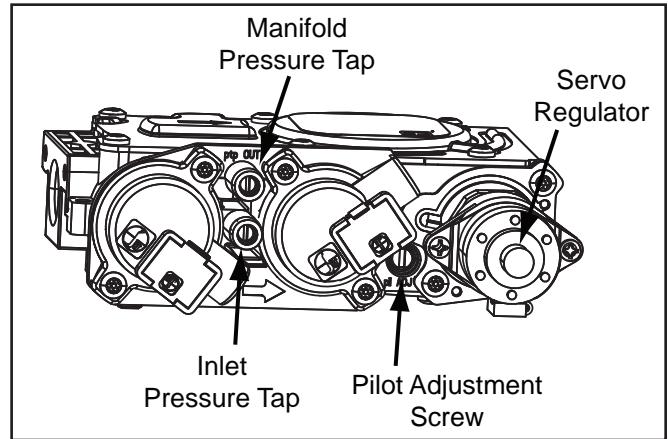

Figure 54. Fully Labeled Gas Valve.
The pressure taps are located on the top right of the valve shown in Figure 54.
2. Remove the firebox baffle by unscrewing the two screws indicated in Figure 54 using a T20 screwdriver. Lower the front of the baffle down and then lift it out of the two locating screws at the rear of the firebox.